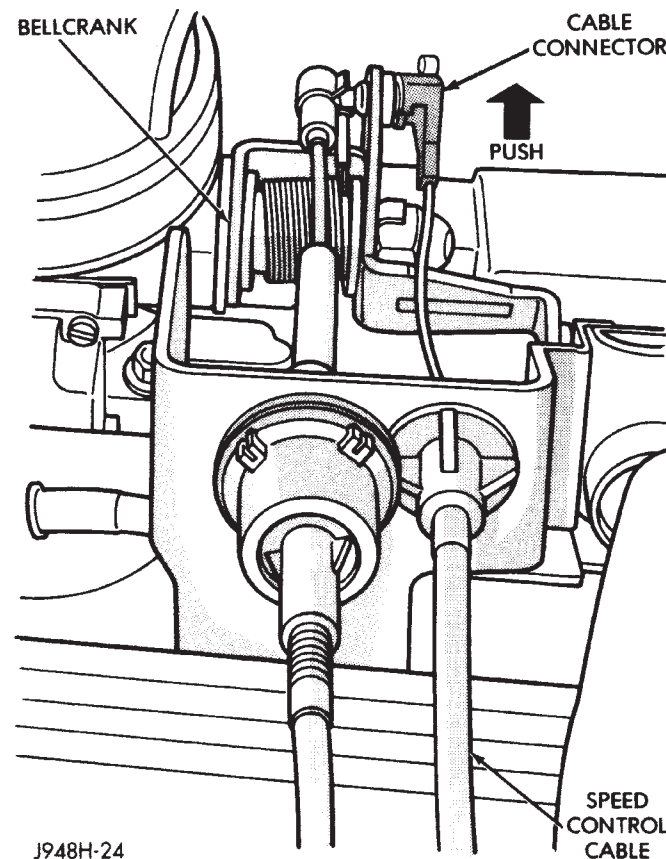

Fig. 5 Cable at Bell Crank—4.0L Engine
- (1) 4.0L Engine: Using finger pressure only, remove speed control cable connector at throttle body bellcrank pin by pushing connector off the bellcrank towards the drivers side of vehicle (Fig. 5). **DO NOT**